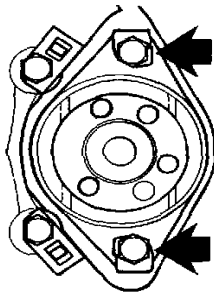

Fig. 78. Attaching bolts for camshaft flange
8. Remove the flange (fig. 78) and then pull out the camshaft carefully to avoid damaging the bearings.